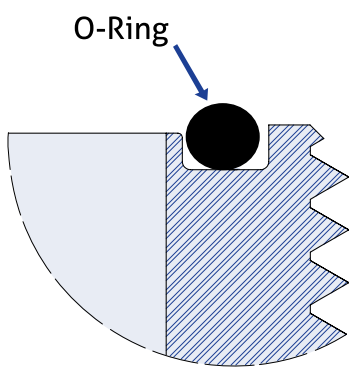

Figure 10: Detail View of Cross Section of Groove Type A
- Type A: The original style A O-ring has no retaining ledge. (Figure 10)